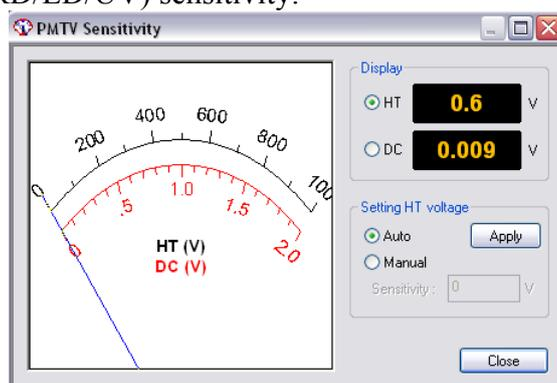

Figure 5.10 [PMTV Sensitivity] dialog box
- [Display] Changes the meter indication (displayed on the right side of Figure 5.10) at the right to [HT] or [DC] with an option button.
Note (1): Closing the shutters zeroes the HT voltage. Confirm this in the [CD Detector...] dialog box (Figure. 5.10) if necessary.